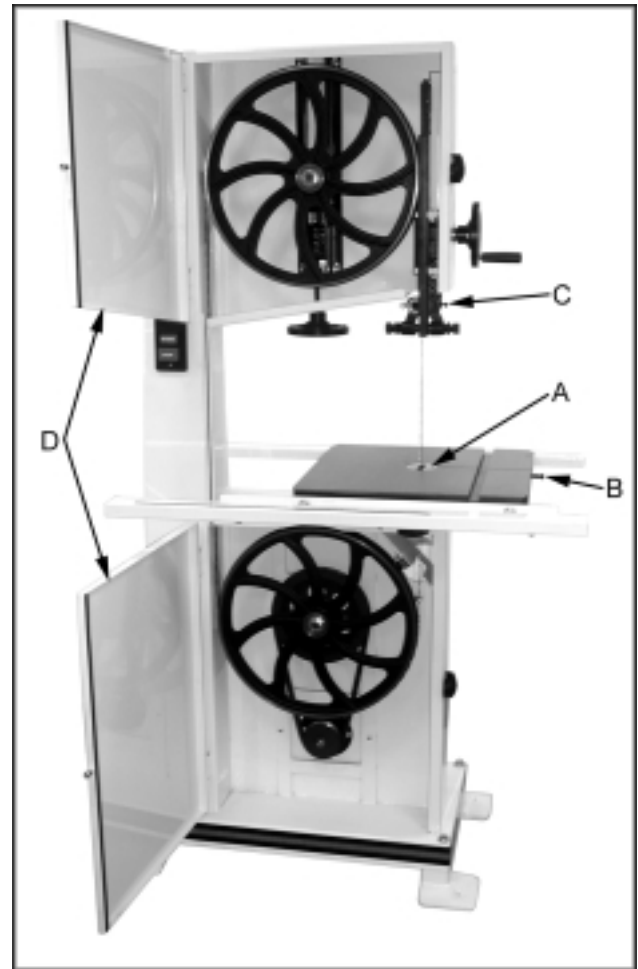

Fig. 16
1. Remove the table insert (A, Fig. 16), and table pin (B, Fig. 16).
3. Loosen socket head cap screw (C, Fig. 16) and slide the blade guide assembly back as far as it will go.
4. Open both wheel covers (D, Fig. 16).